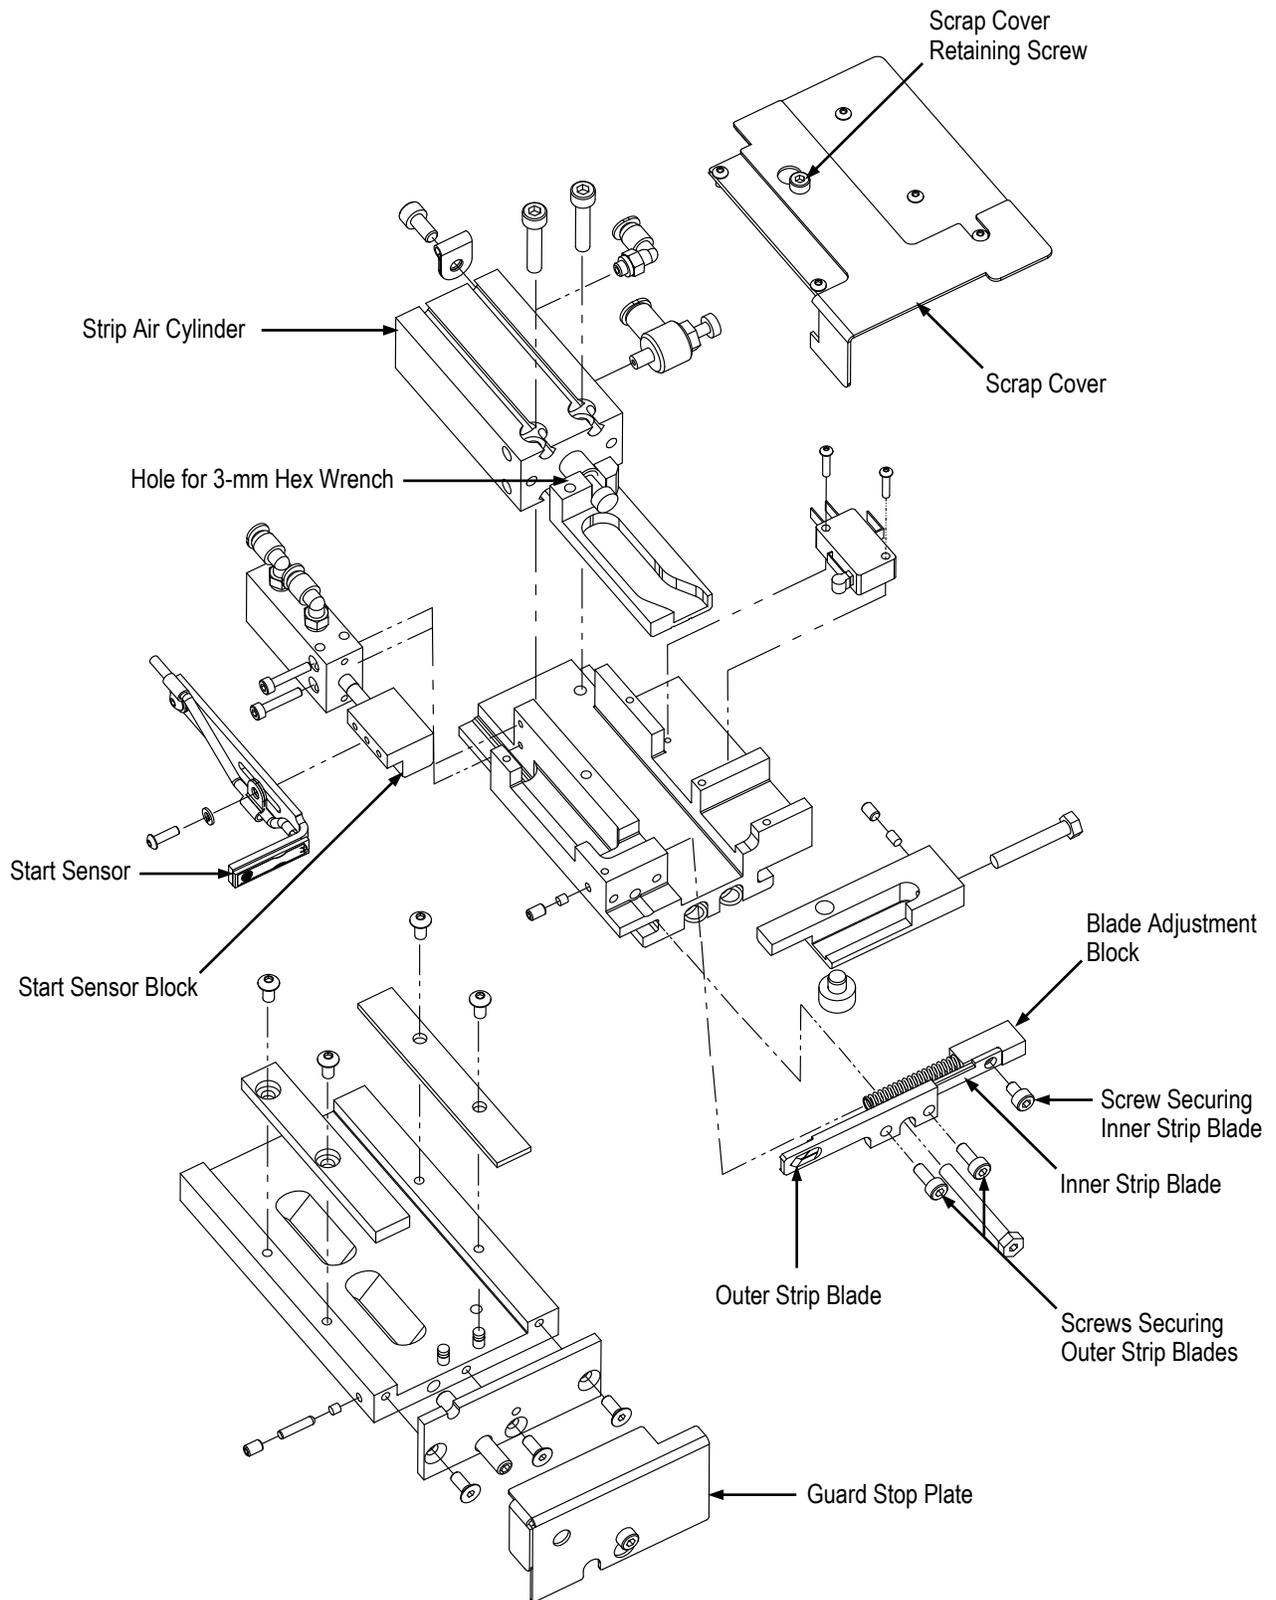

Figure 20
1. Open the main guard to remove pneumatic power and to access the stripping module. See Figure 20.